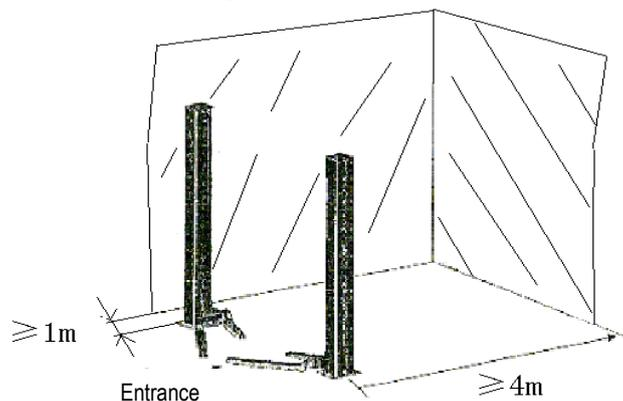

Fig. 7
- The front and back of the lift should be reserved with sufficient space to accommodate all the vehicles (Fig. 7).(evaluating from the center line ,each edge should be about 4m)